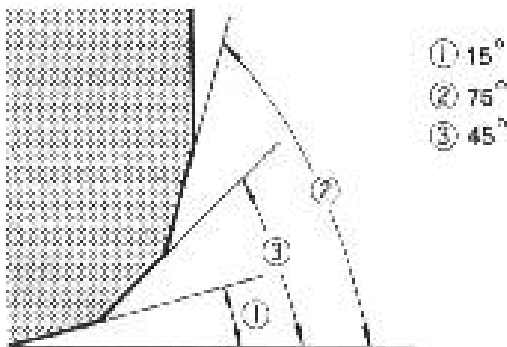

Fig. 3-67 Valve seat angles for exhaust valve seat
1) EXHAUST VALVE SEAT: Use a valve seat cutter to make three cuts in the order illustrated in Fig. 3-67. Three cutters must be used: the first for making the 15° angle, the second for making the 75° angle and the last for making the 45° seat angle. The third cut (3) must be made to produce the desired seat width (w).